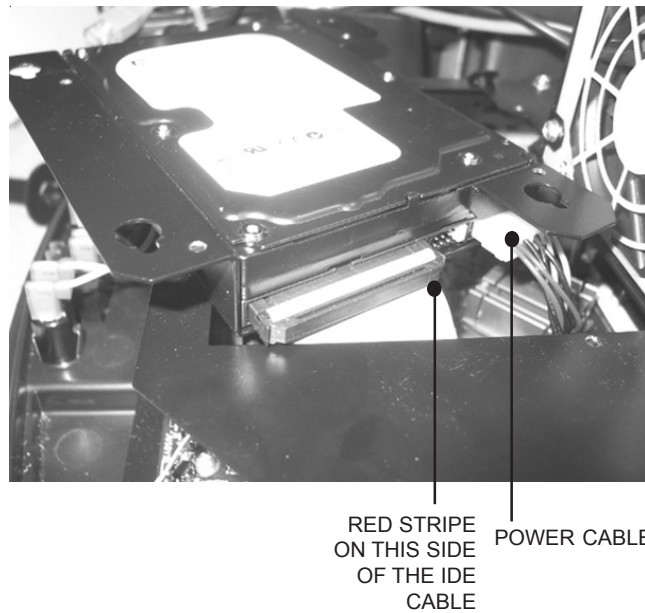

FIGURE 3-4 - IDE AND POWER CABLE ATTACHED TO HARD DRIVE
5. Attach the power supply and IDE cable to the hard drive as shown in Figure 3-4. Make sure both headers are firmly seated.